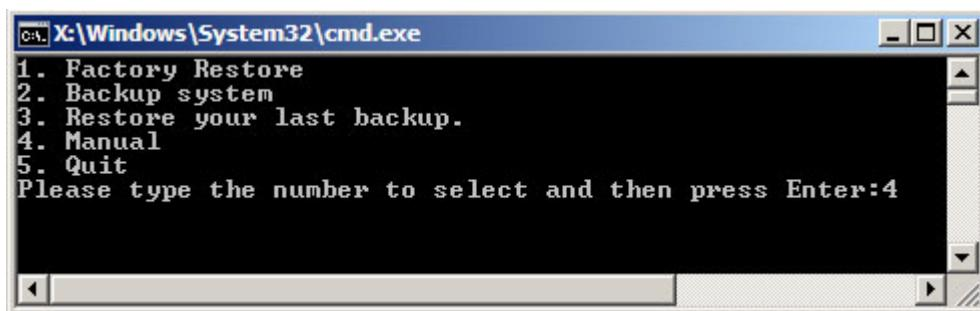

Figure B-8: Recovery Tool Menu
Step 2: The recovery tool menu appears. Type <4> and press <Enter>. (Figure B-8)